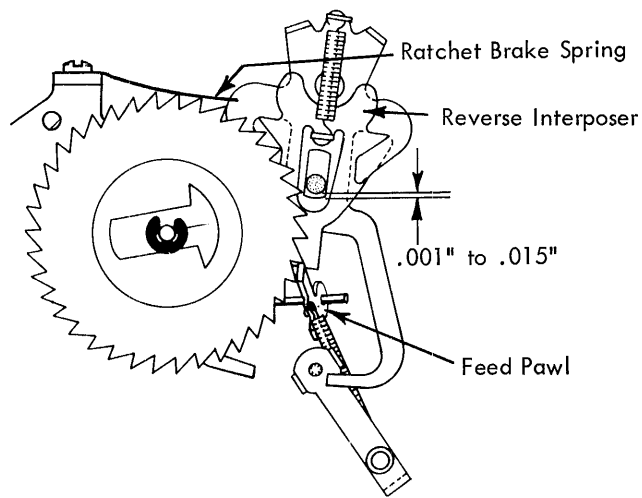

FIGURE 266. Ribbon Feed Plate Adjustment
- 2. Ratchet Brake Spring - Form the left and right ratchet brake springs so that each will hold its ratchet in position after the ratchet has been manually rotated far enough to fully actuate the reverse mechanism (Fig. 266).
3. Ribbon Feed Plate - With the ribbon mechanism set for a reversing operation and the ribbon cam at its high point, adjust the ribbon feed plate forward or back so that the ribbon feed pawl holds the reverse interposer within .001" to .015" of its total travel (Fig. 266).